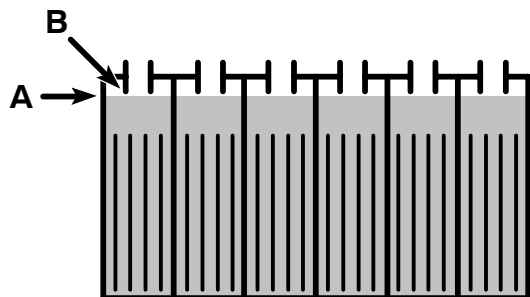

FIG. 43
3. Check the electrolyte level (A) in each battery cell **after charging batteries**. The level should be approximately 1 cm (3/8 in) from the bottom of the fill-port (B). Add distilled water if needed (Figure 43).